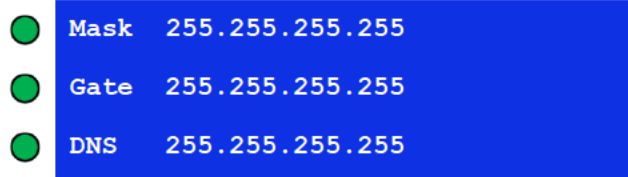

Figure 17: Screen to Edit Operational Parameters
- Screen 2 appears (Figure 17) displays the IP address, Mask, Gate, and DNS and has an interactive mode so you can edit these parameters.
- When DHCP is enabled and you want to disable DHCP so you can enter a static IP address, press ✓ and wait a few seconds. The screen in Figure 17 appears with the E flashing to indicate the location of the cursor. Press ✓ to toggle to Disabled. Go to step 3.